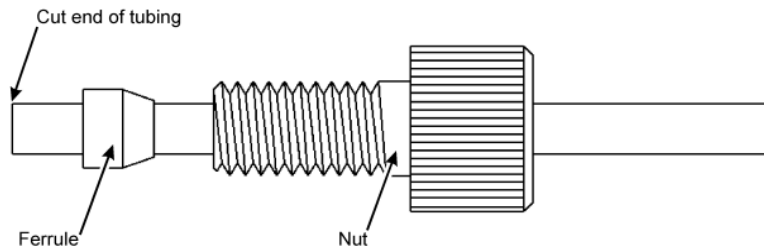

Figure 18 Fitting a nut and ferrule onto the tubing
10. Fit a nut and ferrule onto the other end of the tubing, as shown in Figure 18.